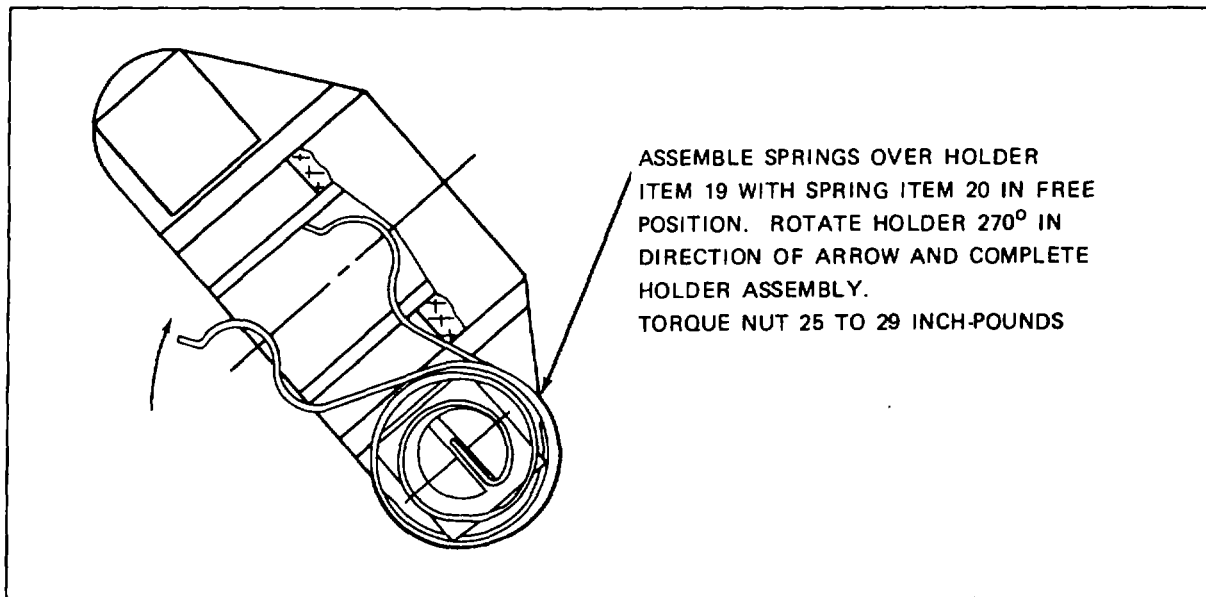

Figure A-3. Enlarged View Showing Typical Spring Installation
2. Set housing (53) in base (46) and install screws (45) torqued to 80 to 100 inch-pounds.
3. Install insert (43) if it was removed. Press bearing (44) on armature (42).
4. Install insert (41) and press pin (40) until it bottoms into end bell (39), if they were removed.
5. Insert the assembled armature into the assembled end bell. Then install the end bell on housing (53).
6. Insert rod assemblies (38) with washers (37) through end bell assembly, then install insulators (36).
7. Align the scribe mark on end bell (30) with scribe mark on housing (53). Tap end bell into place with rawhide mallet. Push rod assemblies (38) through end bell (30) and install nuts (34) and washers (35). Torque nuts (34) to 12-15 inch-pounds.
8. Install bearing (33), retainer (32) and screws (31) torqued to 20-25 inch-pounds. Use sealing compound primer and sealant on threads.
9. Install inserts (29) into terminal (28) if they were removed, then with brush holder (27), washer (26) and screw (25), fasten the terminal to insulator ring (16) with the deep chamfer on the I.D. of the insulator on the same side as the holder (27). Across the insulator 180°, repeat these instructions and install another terminal (28) and holder (27). These are positive brush holders.
10. Install brush holder (24), screw (23), washer (22) and nut (21). Install the remaining brush holder in a like manner, 180° across insulator ring (16). These are negative brush holders.
11. Install two springs (20) on spring holder (19) and insert holder through insulator ring (16). Install washer (18) and nut (17), (Figures A-3 and A-4). Install remaining springs and spring holders.
12. Torque nuts (21) and (17) to 25-29 inch-pounds Torque screws (25) to 40-46 inch-pounds.
13. Align the assembly with one positive brush holder centerline rotator 45° clockwise from the scribe mark on the side of end bell (30). Install washers (15) and screws (14) torqued to 20-25 inch-pounds.
14. Install screws (12), washers (13) and